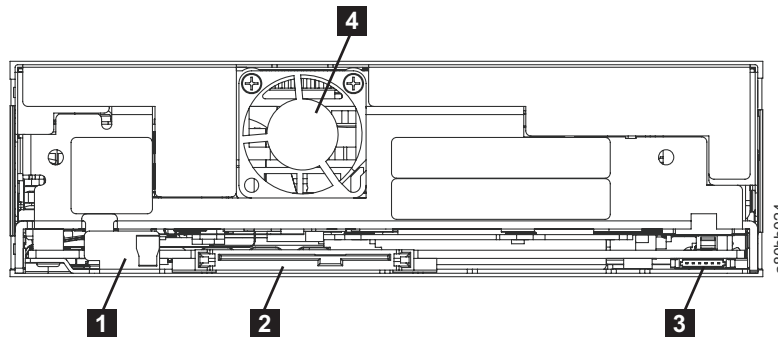

Figure C-1. Rear panel of the SAS Half-high drive
6. Disconnect the internal SAS cable (see **2** in Figure C-1).
7. If connected, disconnect the internal LDI (RS-422) cable from the LDI (RS-422) connector (see **3** in Figure C-1).